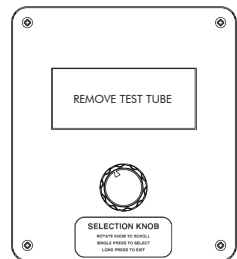

fig. no.25.3
3. Remove the test tube when this window appears. (fig. no.25.3)